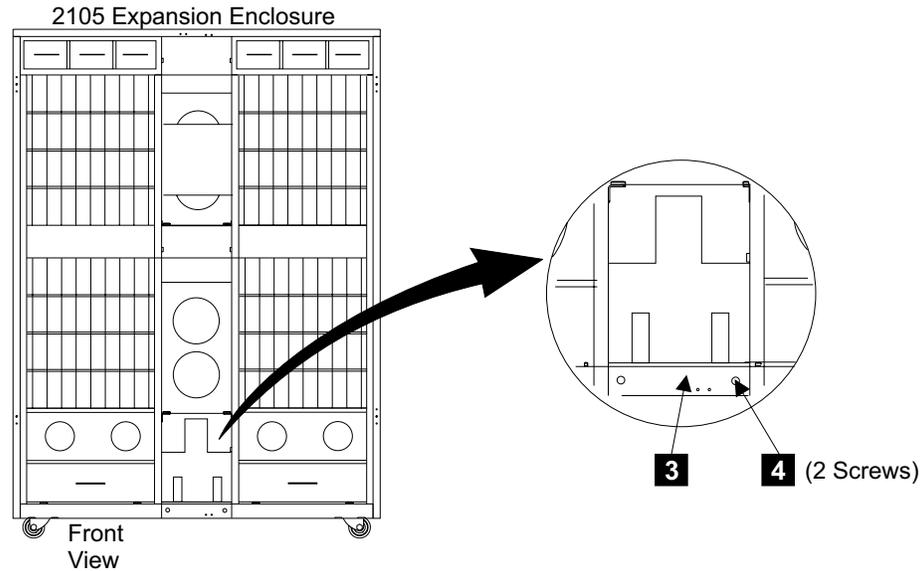

Figure 283. Tailgate Bar Location (S009107)
- ___ 11. Reinstall the frame tailgate bar (center) removed earlier, see **3** and **4** in Figure 283.